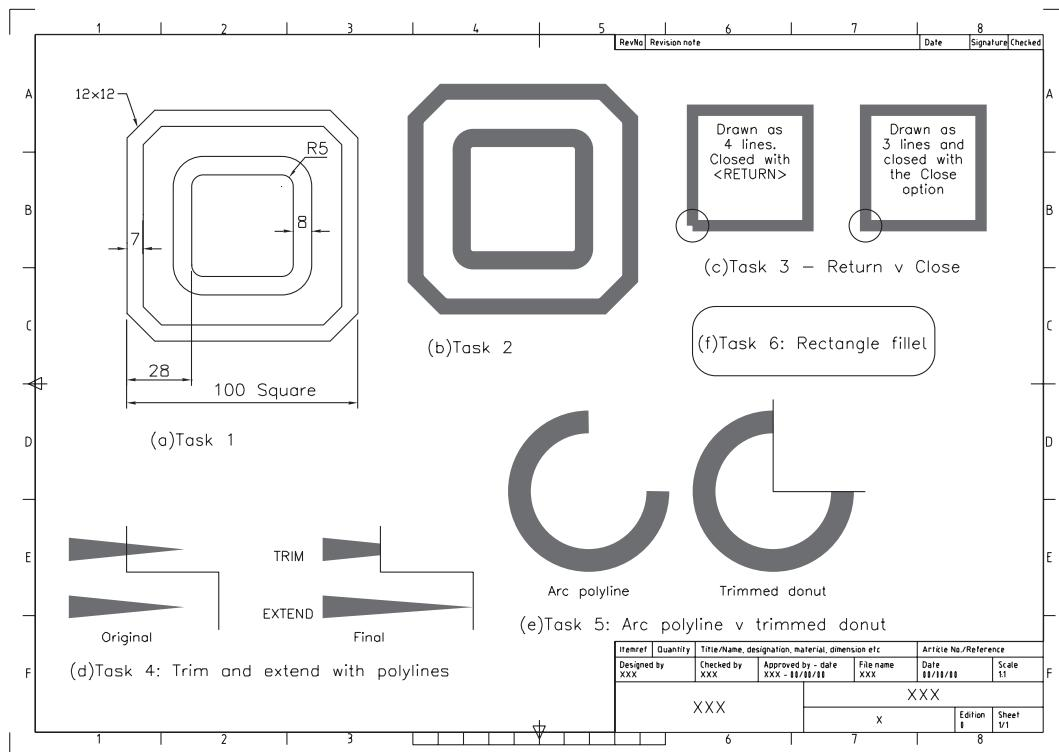

Figure 20.3 The polyline tasks.
- 2 To demonstrate their use, refer to Figure 20.3 and:
- 3 *Task 1: Figure 20.3(a)*
- 4 *Task 2: Figure 20.3(b)*
- 5 *Task 3: Figure 20.3(c)*
- 6 *Task 4: Figure 20.3(d)*
- 7 *Task 5: Figure 20.3(e)*
- 8 *Task 6: Figure 20.3(f)*